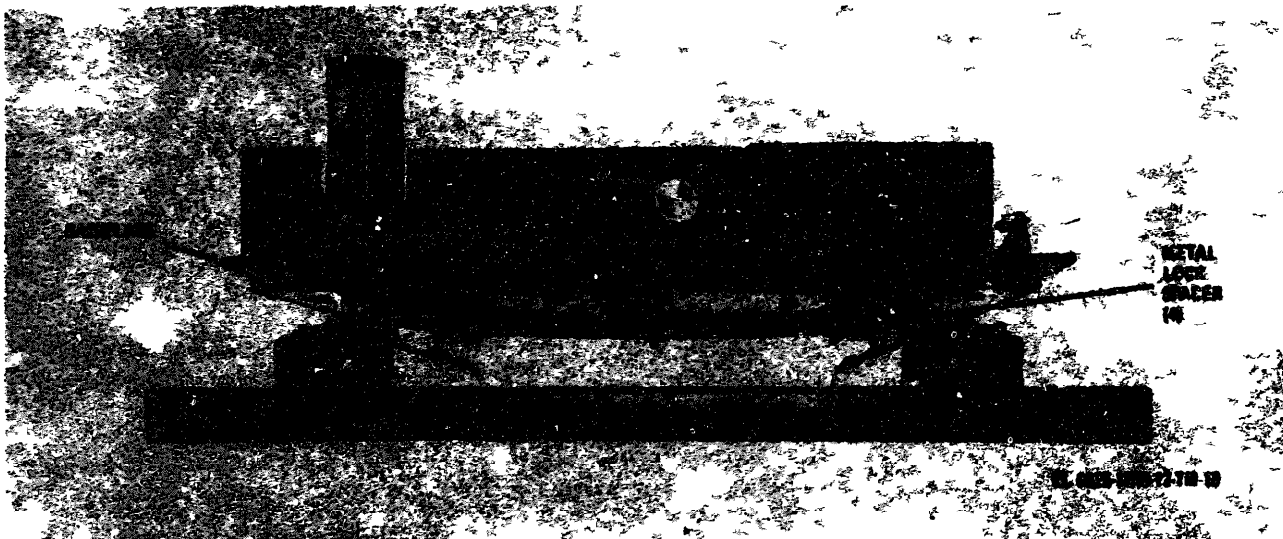

Figure 2-4. *Interface Test, Radio Frequency TS-9975/APS-94D metal lock spacers*
- d. Loosen the four metal lock spacers (fig. 2-4) so the RF test set baseplate may be rotated.